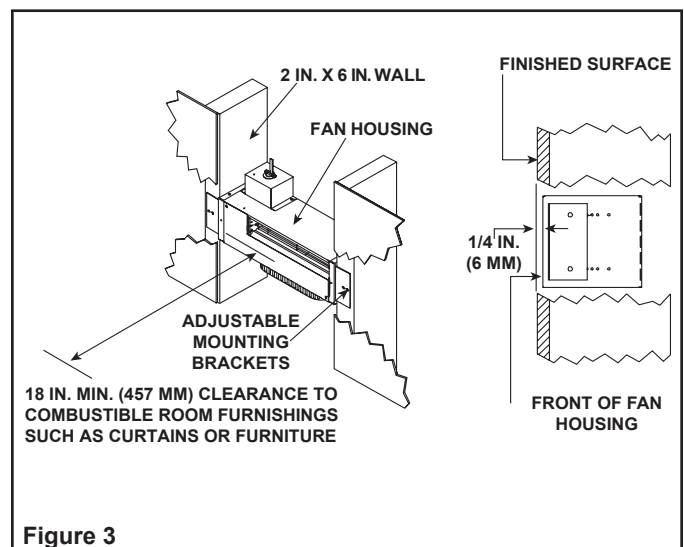
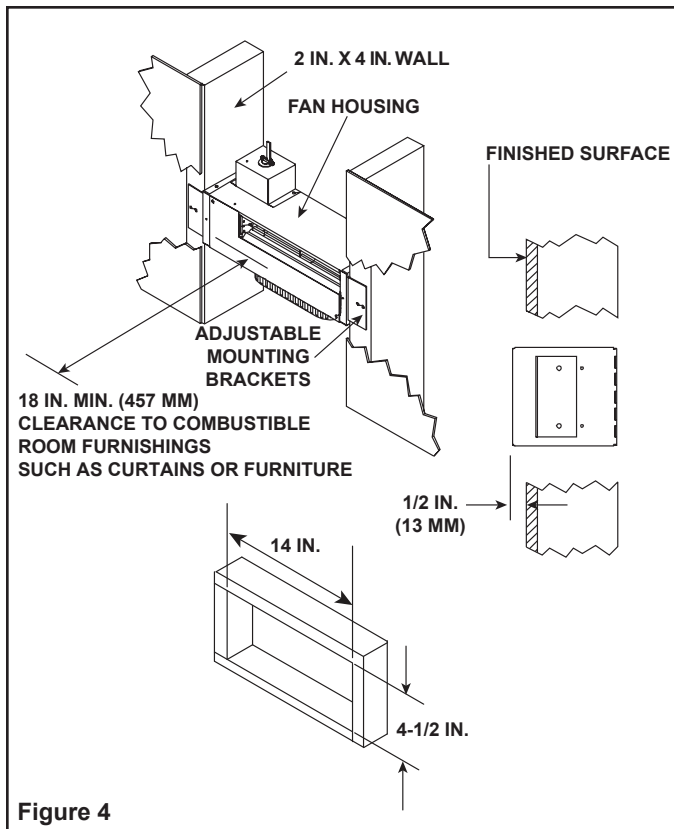

Figure 3
Figure 4
**Note:** A minimum clearance of 18 inches to any combustible materials or combustible surfaces such as room furnishings, furniture, curtains, etc., is required from the fan housing air outlet. Plan for this clearance prior to installation of the Heat-Zone-Gas kit. See Figure 3 and Figure 4.
4. Mount and secure the fan housing assembly to framing members so the front surface is 1/4 in. (6 mm) below the finished wall or floor surface. Use the adjustable mounting brackets and screws provided in the kit. See Figure 3 and Figure 4.
**Note:** If the fan housing is installed in a 2 x 4 wall, the front of the housing will protrude approximately 1/2 in. (13 mm) out of the wall. See Figure 3.